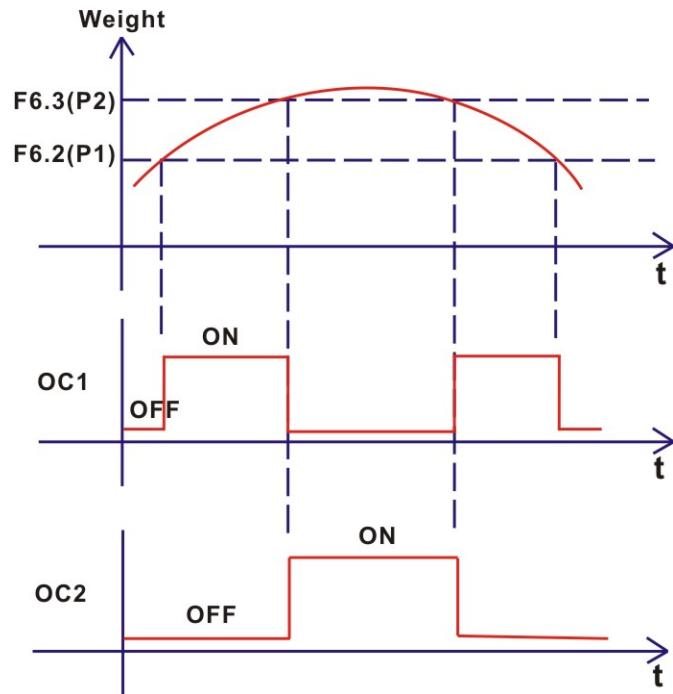

Fig.6-4 Relay Output- Interval
- Interval (F6.1=2): If weight value is lower than the value set in F6.2, both OC1 and OC2 are off; if value set in F6.2 \leq weight value \leq value set in F6.3, OC1 is on and OC2 is off; if weight value is higher than or equal the value set in F6.3, OC1 is off and OC2 is on. See Fig.6-4.
- (4) When relay output mode is selected, press **ZERO** to save and go to the next menu, the display shows "F 6.2".